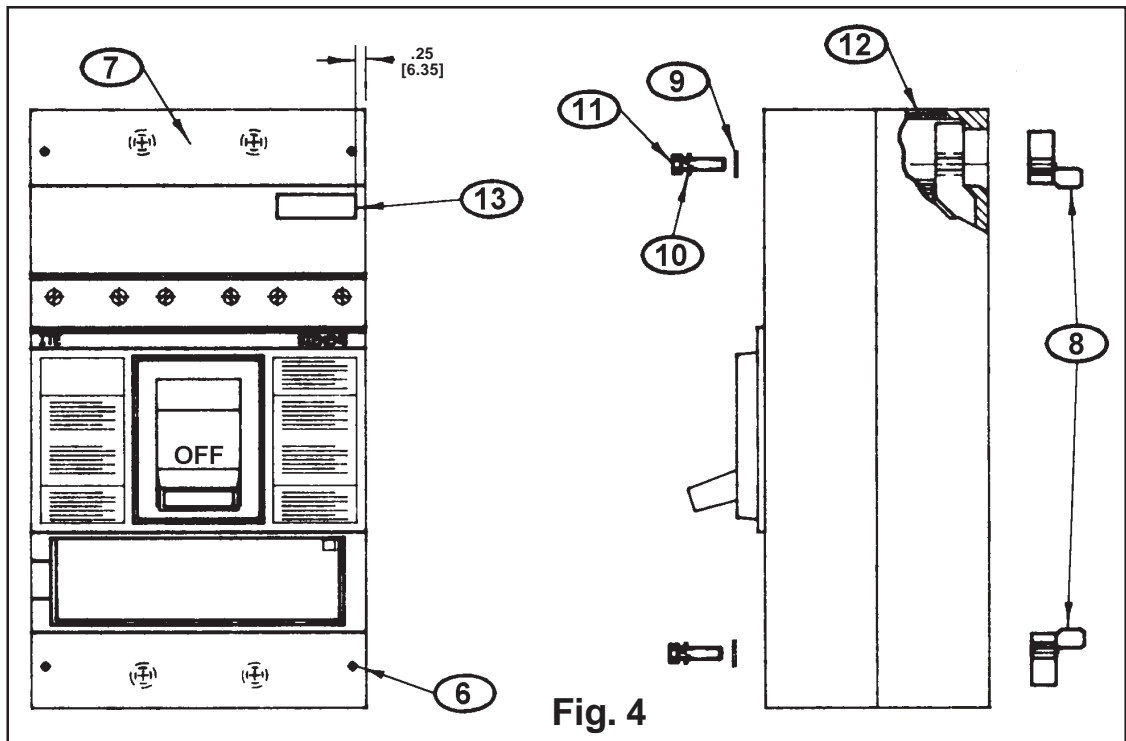

Fig. 4
2. Loosen four breaker terminal shields screws (6) and remove both line and load side terminal shields (7).
3. Place terminal stabs (8) on back of breaker in recess provided in base molding. Secure in place with 5/16-18 hex head bolts (11) furnished. Tighten these bolts to 96 In.-Lbs. (8 Ft.-Lbs.) [10.84 N/m] to assure a good electrical connection. Repeat this procedure for the remaining tulip clip assemblies.
4. **INSERT END SHIELDS (12) INTO SLOTS PROVIDED AT LINE AND LOAD END OF BREAKER.**
5. Affix label (13) to front of circuit breaker as shown in Fig. 4.